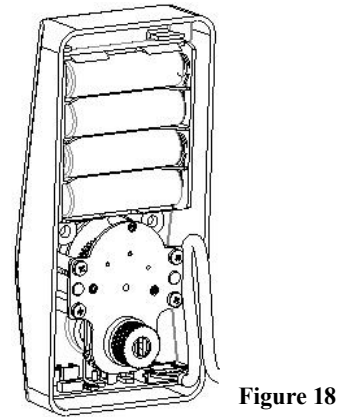

Figure 18
2. Tuck up the **Connecting Wire** for further **Rear panel Assembly** installation. As shown in **Figure 18**.